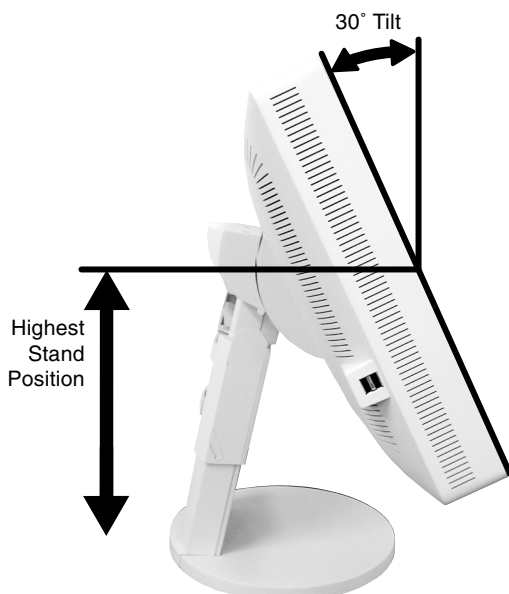

Figure C.2
4. Place hands on each side of the monitor to tilt the LCD panel 30-degree angle and lift up to the highest position (**Figure C.2**).